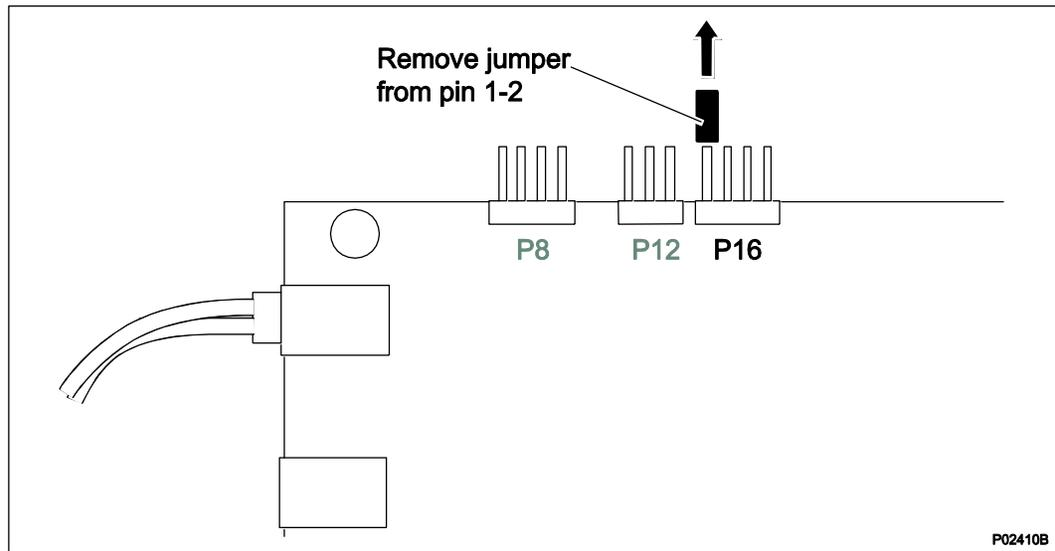

Figure 8 Reconfiguring for Summary Alarm
4. Remove the configuration jumper as shown in Figure 8.